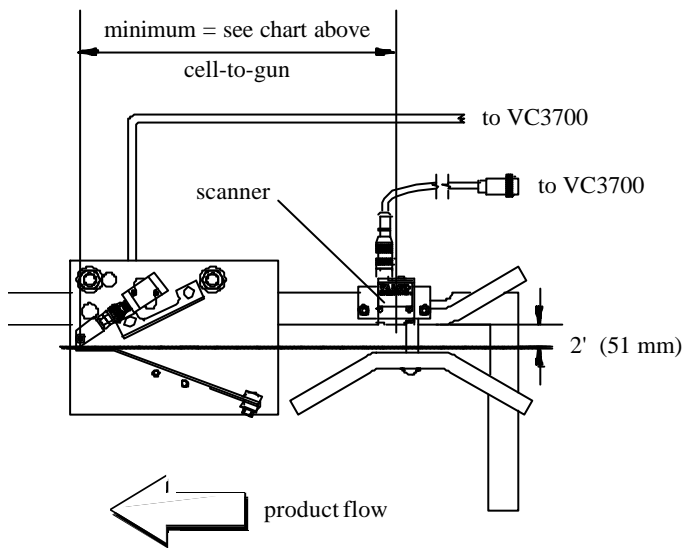

Figure 12. Top-Down Glue Station
1. Position the scanner assembly brackets upstream from the glue station (Figures 12 and 13).